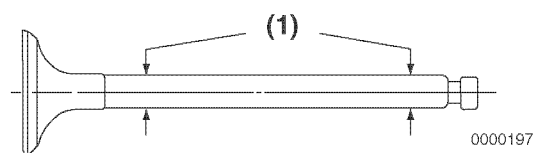

Figure. 6-9
Use a micrometer to measure the valve stem diameter. Measure the valve stem near the combustion end and near the opposite end (**Figure 6-9, (1)**). See *Intake / Exhaust Valves, Guides and Seals* on page 6-6 for the service limit. Record the measurements.